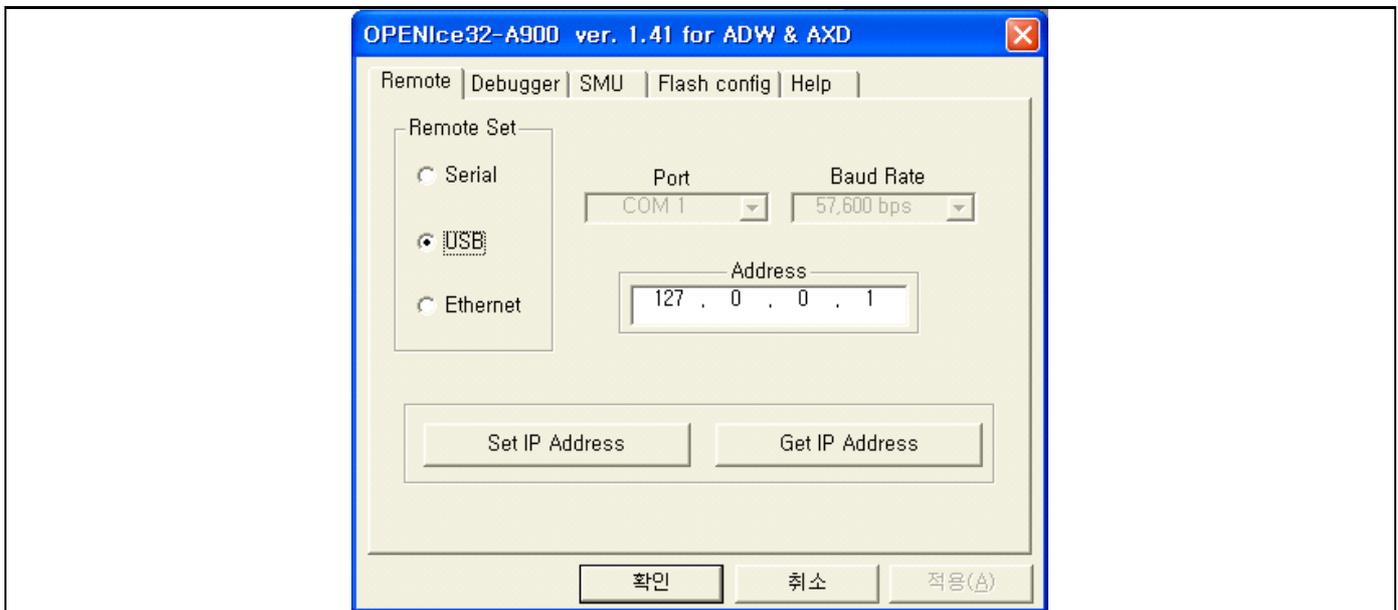

Figure 2-15. OPENice32-A900 Configuration: Communication Setting Page
4. Configure OPENice32-A900 dialog box (See Figure 2-15, 2-16).